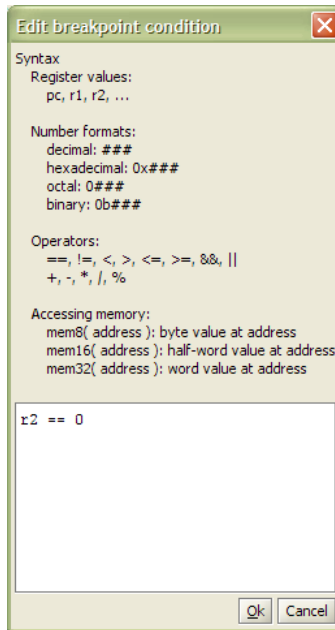

Figure 30. Edit breakpoint condition window.
3. The window in Figure 30 will appear. This window contains information about the syntax used to describe a condition. For this example type `r2 == 0`.